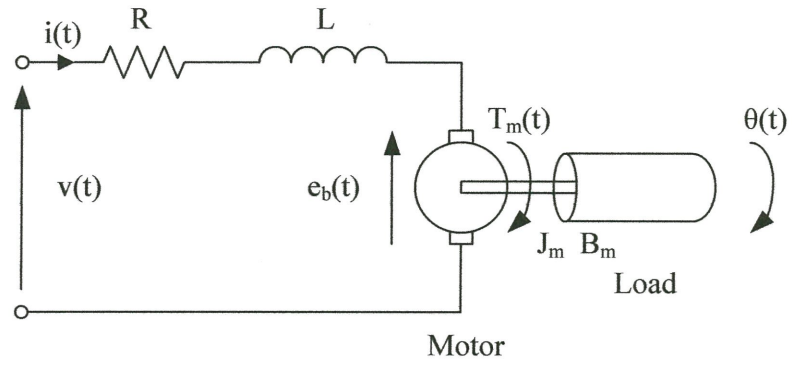

FIGURE Q2
- Q2** Figure Q2 shows a schematic diagram of an armature-controlled direct current motor. This motor is assumed to have a constant magnetic field. Assume the following numerical values for system constants: